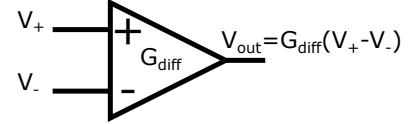

Figure 1.15: A Differential Amplifier.
*differential amplifier* may be used. As diagrammed in figure 1.15, a differential amplifier has two inputs and a single output corresponding to the difference between the signals. This operation can be seen as first inverting one input and then adding it to the other. The input which is inverted  $V_-$  is fittingly called the “inverting input”, while the normal input is verbosely titled the “non-inverting input”,  $V_+$ . The multiplication factor is known as the “differential gain”  $G_{\text{diff}}$  and is defined through the relation